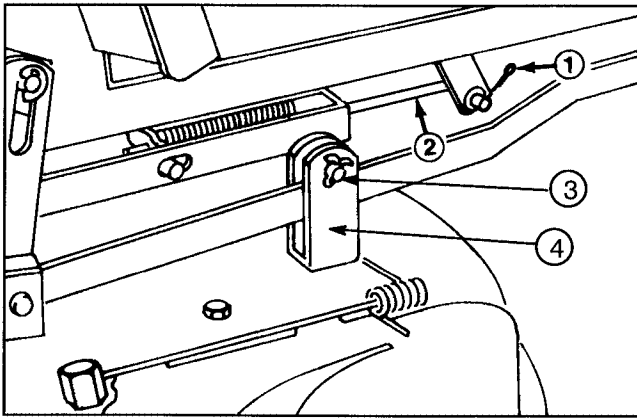

**Figure 24**
3. Loosen belt guides near engine pulley and rotate them out of the way. Remove deck belt from engine pulley (Fig. 24).
3. Loosen and remove (1) mounting screw securing each belt guide to cutting unit. Pivot belt guides away from spindle pulley and remove belt. Visually inspect belt for wear or damage (Fig. 24).
3. Remove deck belt from engine pulley (Fig. 24).